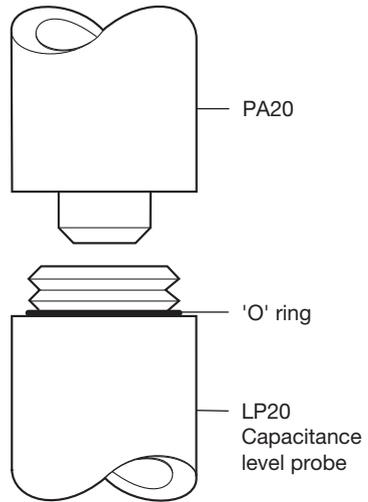

Fig. 2
- An 'O' ring is supplied with both the LP20 and PA20. Ensure only one 'O' ring is fitted between the probe and the PA20 preamplifier (see Figure 2).